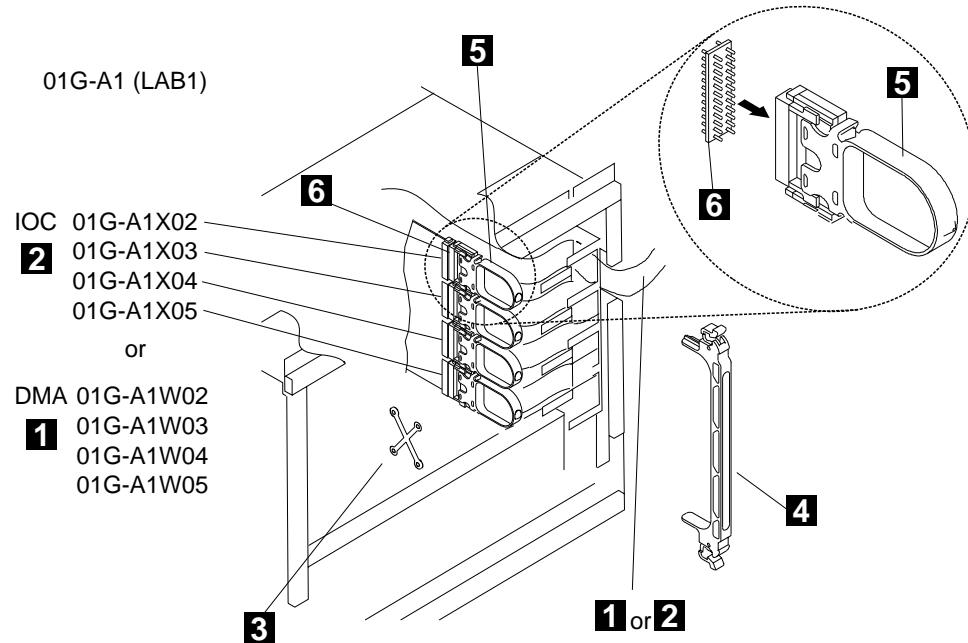

Figure 4-40. Plugging of the DMA and IOC Cables in LAB1
- Step 12. ____ Install short retainers **5** (PN 1953188) and four interposers **6** on the IOC bus cables removed from 01G-A1 X02, X03, X04, and X05. Make sure the interposers are seated completely flush with the connectors on the cables as it takes considerable pressure to seat them properly (see Figure 4-40).
- Step 19. ____ Clamp cables in raceways using retainers **3** (PN 0813519) see Figure 4-40.
- Step 20. ____ Secure the cable extenders using an intermix bracket **4** (PN 1953110) see Figure 4-40.